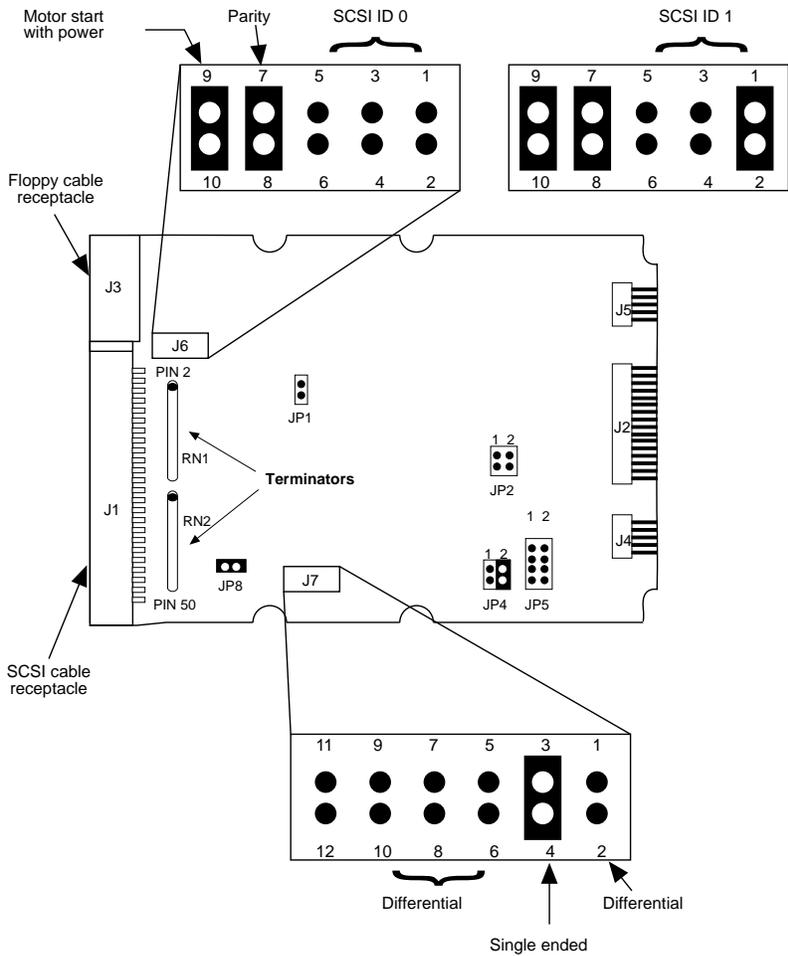

Figure 10-2. Jumper Settings for the SCSI Hard Disk Drive
4. Verify that all jumpers are correctly positioned as shown in Figure 10-2.